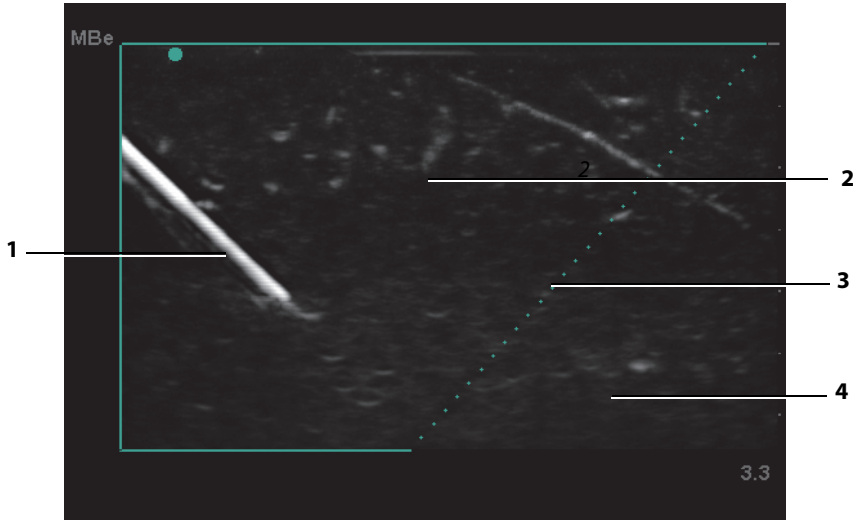

Figure 2: MBe image with MBe on (linear transducer)
- Note that linear structures are enhanced only in an outlined portion of the image. The area outside the outline remains unchanged. (See Figure 2.)
MBe Turns on SonoMBe imaging, which enhances linear structures within a selected angle range and can facilitate needle guidance during catheter placement and nerve-block procedures. A three- or four-sided outline indicates the affected area. (See Figure 2.)